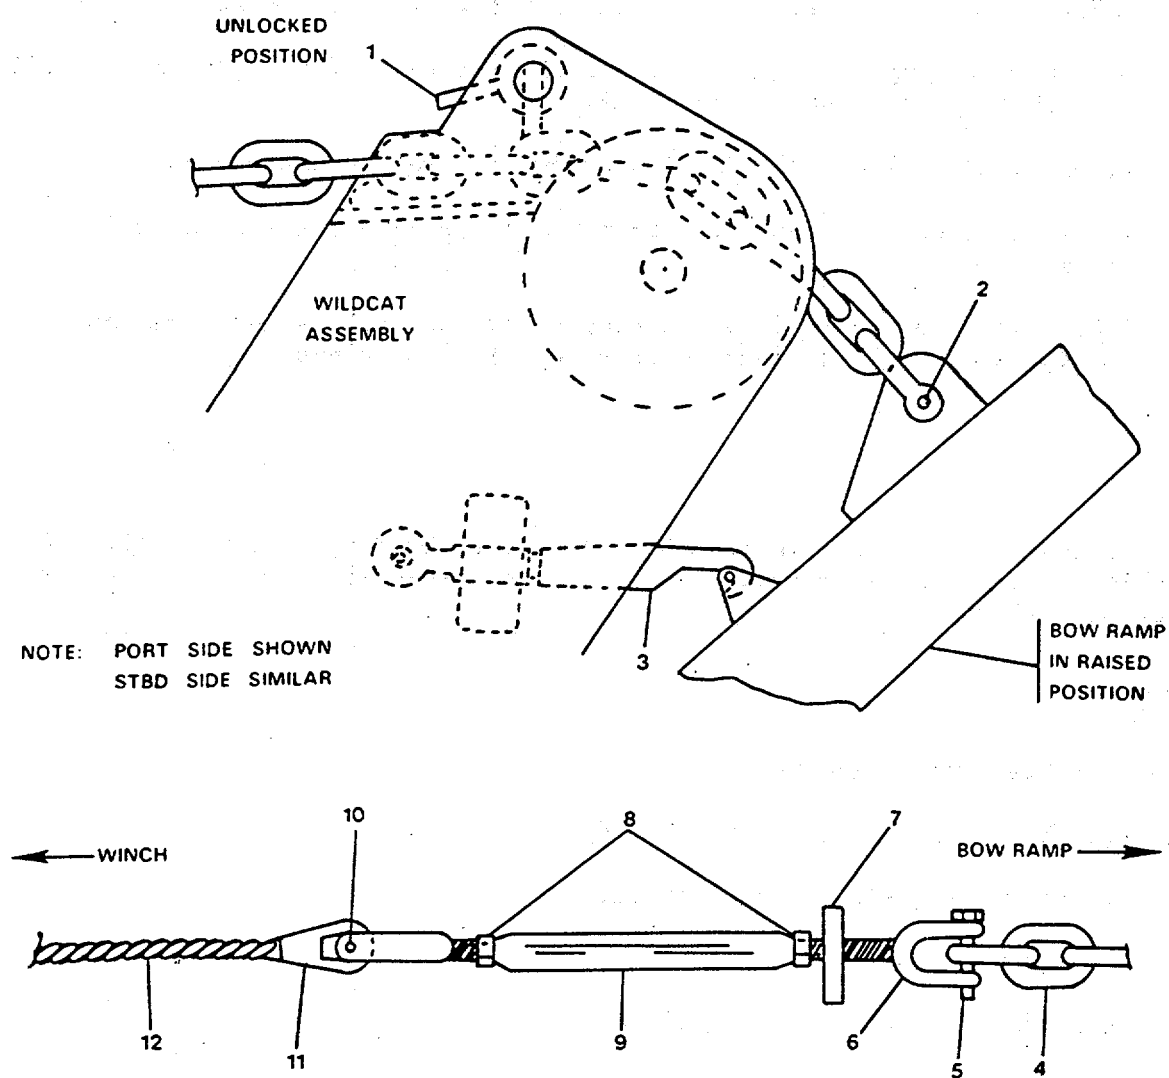

FIGURE 4-11. Bow Ramp Lifting Assembly.
- (1) With bow ramp in raised position ensure that both bow ramp locking assemblies (3, FIGURE 4-11) and both chain stoppers (1) are in locked position.
- (1) Attach turnbuckle to chain link (4, FIGURE 4-11).
- (2) Insert shackle pin (5) and secure.
- (3) Operate winch slowly until wire ropes (12, FIGURE 4-11) are installed on winch drum using caution to ensure that coils feed evenly and do not kink or snarl.
- (4) Stop winch so enough slack remains in wire rope to install turnbuckle (9, FIGURE 4-11). Insert closed socket (11) end into turnbuckle jaw and install turnbuckle pin (10).
- (5) Operate winch and take up slack in wire rope adjust turnbuckle (9) until desired tension is reached. Secure turnbuckle locking nuts (8).
- (6) Remove lifting device used to secure bow ramp and restore system to normal operation, TM 55-1905-223-10.